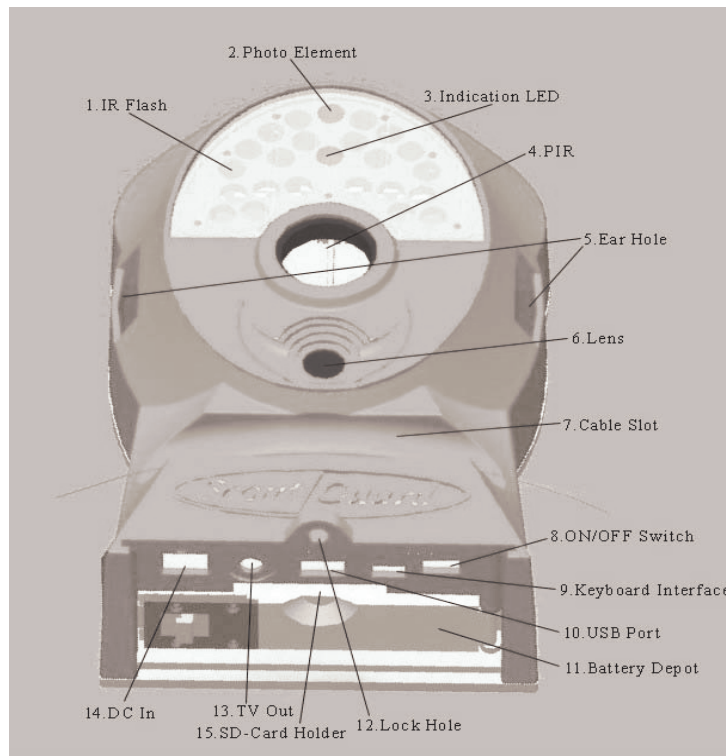

Figure 1: Front view of the camera
- Fig. 1 shows the front view of the camera